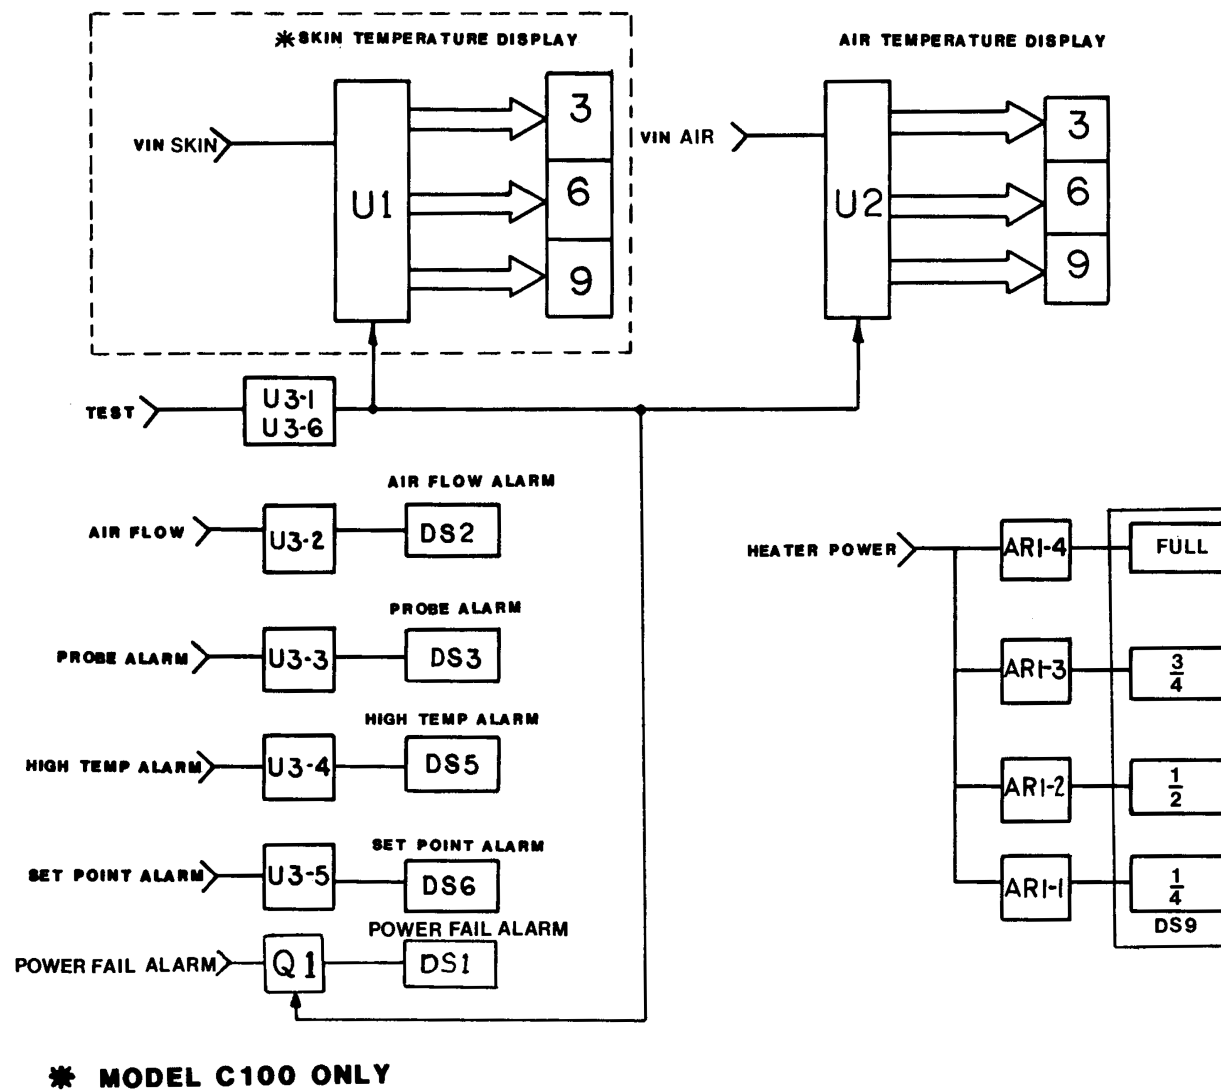

FIGURE 3.13 FUNCTIONAL BLOCK DIAGRAM, PCB1, CONTROLLER DISPLAYS
DIGITAL DISPLAYS (Figs. 3.13, 7.1 or 7.2) U1* and U2 are analog to digital converters which provide 3 digit seven segment outputs. During Auto Test a logic high from U10-A (pin 2) on PCB2 is applied to pin 37 of each converter(s) via buffer U3-1 and U3-6. This high puts U1* and U2 in the test mode and the Digital Display(s) will read all eights.
ALARM INDICATORS (Figs. 3.13, 7.1 or 7.2) When an alarm condition occurs, a pulsating logic low is applied to the appropriate input of U3-2, -3, -4, or -5 which activates the appropriate alarm lamp. Also, if there is a power failure, the battery voltage is applied to J1-9 (PCB1) which lights the POWER FAIL lamp (DS1 on PCB1) via Q1 (PCB1) to indicate power failure.
HEATER POWER INDICATORS (Figs. 3.13, 7.1 or 7.2) The inverting inputs of AR1-1, AR1-2, AR1-3, and AR1-4 are connected to AR1-2 on PCB2 which is the output of the Temperature Control circuitry. As described previously, the output of this circuit is 1 to 2 volts at set temp and 4.0 volts at full power.
*CONTROL MODE INDICATORS (Figs. 3.13 and 7.1). The Control Mode Indicators SKIN and AIR (DS7 and DS8), are operated by the CONTROL MODE switch S1-A on PCB2 which applies -12 volts.